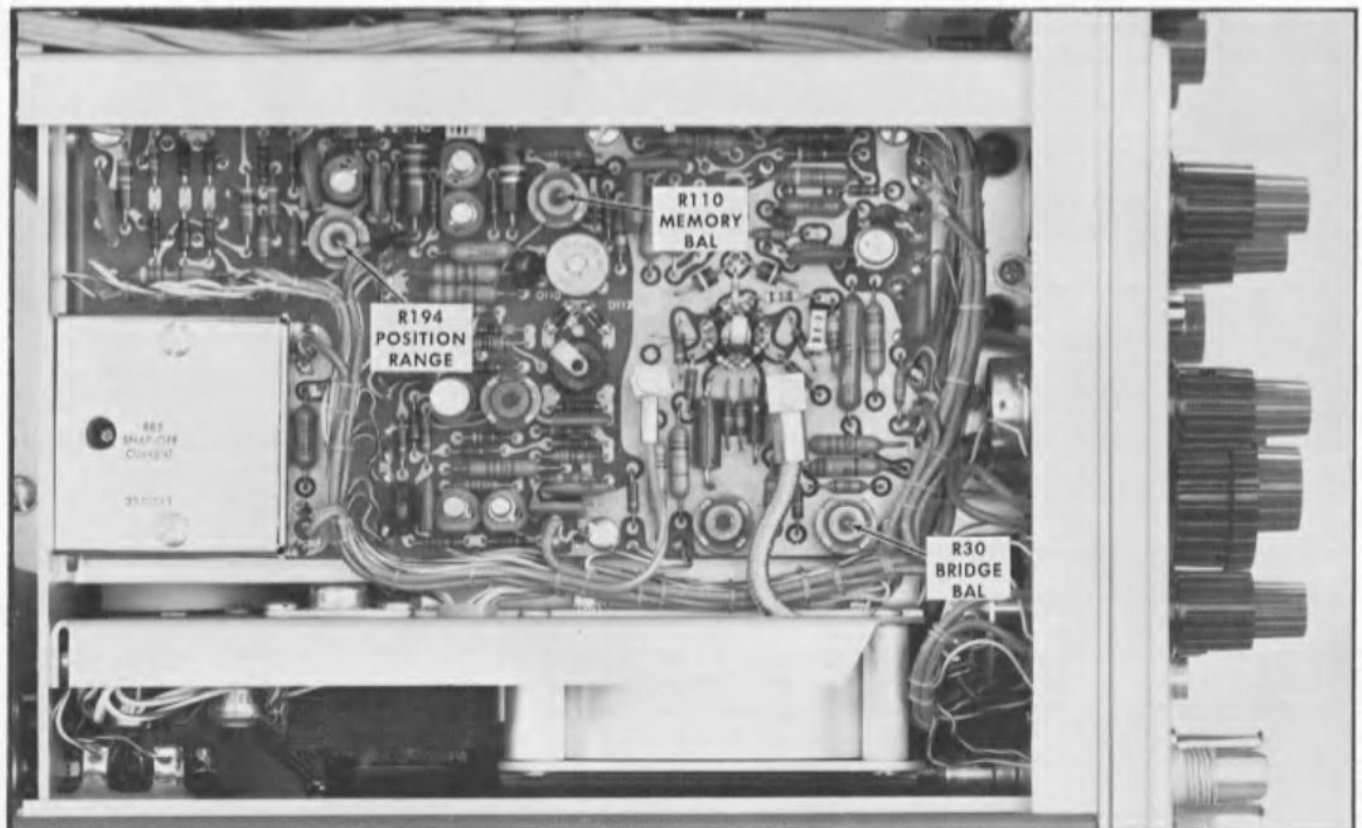

Fig. 5-27. Location of balance adjustment controls on left side of Type 1S1. (Unit is installed in indicator oscilloscope.)
e. Adjust R110 (MEMORY BAL) if operation of the SMOOTHING control is not correct. See Fig. 5-27 for the location of R110.
g. Adjust R30 (BRIDGE BAL) if operation of the switch is not correct. See Fig. 5-27 for the location of R30.